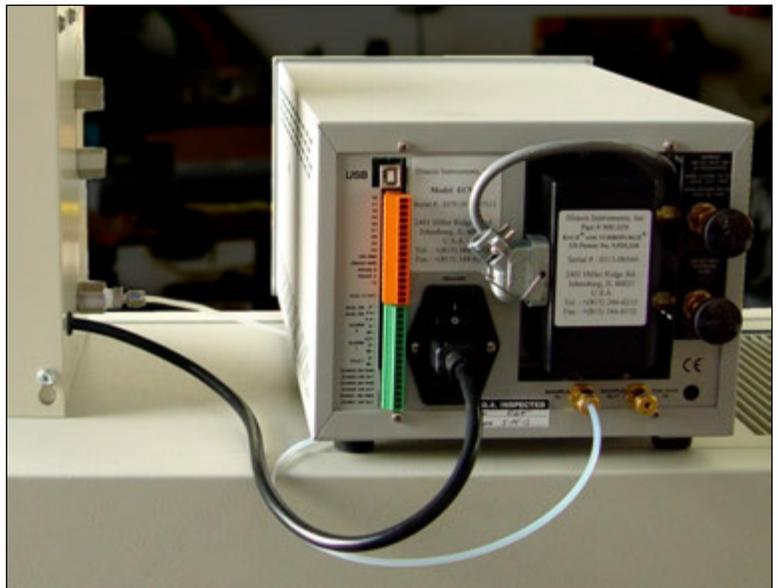

Figure 2. Analyzer power and sample line connections
2. Connect power cable to power plug on back of analyzer (fig. 2).
3. Connect sample gas line to oxygen analyzer Sample In connection (left connection in fig. 2). Hand tighten fitting.
4. Turn ON power switch located just above power cord on back of analyzer (fig. 2).
5. Open IN valve (top valve) full ccw (fig. 2).